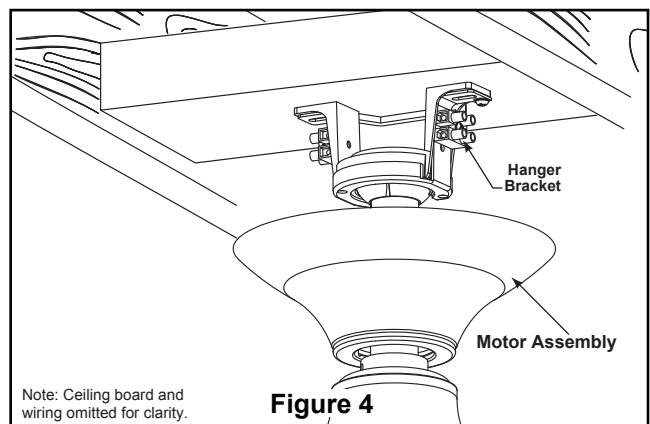

Figure 4
2. Carefully lift the motor assembly on the hanger bracket that was just attached to the timber batten. Be sure the groove in the ball is lined up with tab on the hanger bracket (Figure 4).